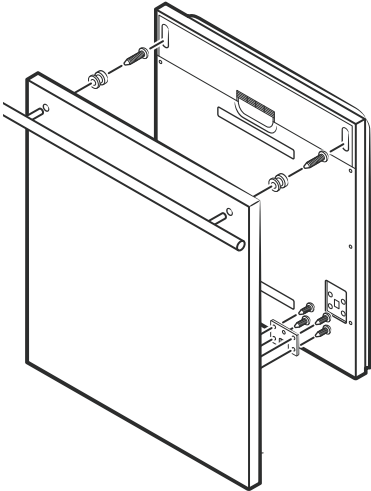
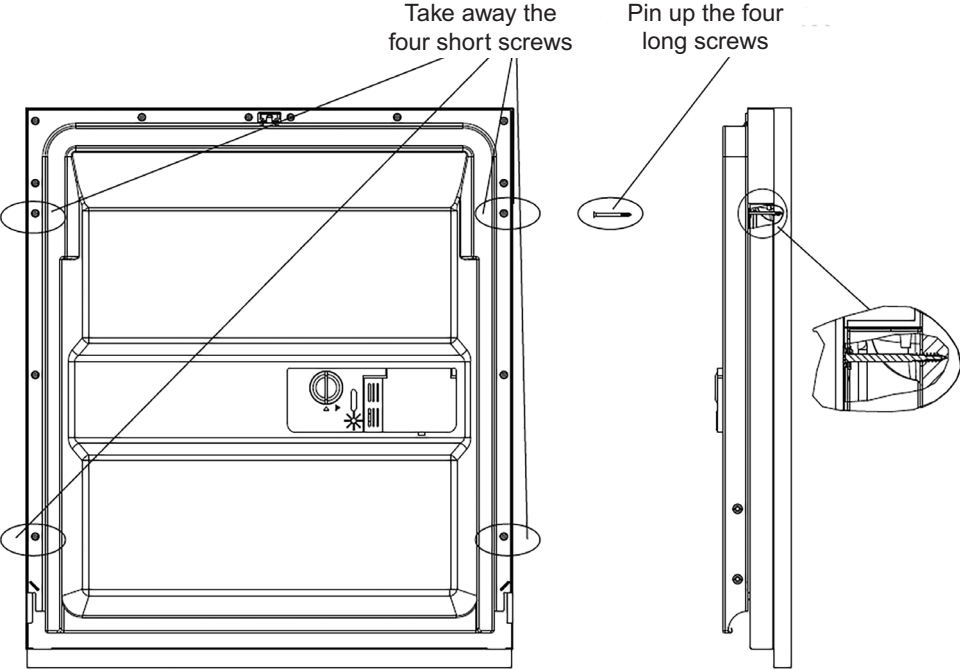

Figure 4a - Installation of aesthetic panel
Figure 4b - Installation of aesthetic wooden panel
- Install the hook on the aesthetic wooden panel and put the hook into the slot of the outer door of dishwasher (*figure 4a*). After positioning of the panel, fix the panel onto the outer door by screws and bolts (*figure 4b*).